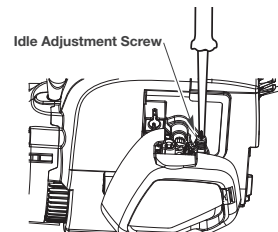

Fig. 21
2. Release the throttle trigger and let the engine idle. If the engine stops, insert a small Phillips screwdriver into the idle adjustment screw (Fig. 21). Turn the idle speed screw **clockwise** 1/8 of a turn at a time (as needed) until the engine idles smoothly.